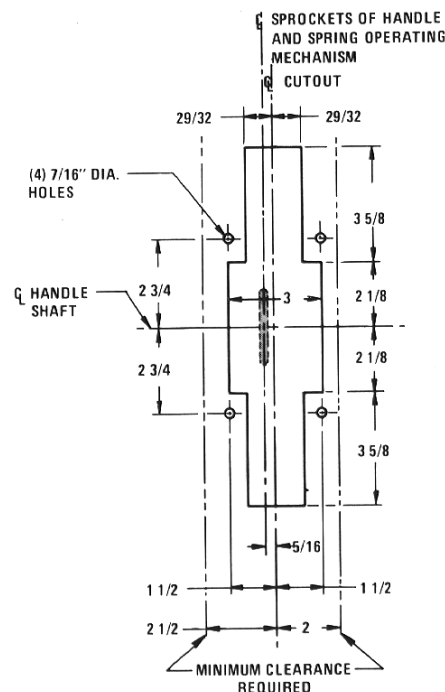

Fig. 10
- c. If not already provided, cut opening and drill or punch four 7/16" diameter mounting holes in left front of enclosure per details in Fig. 10. (This information is also found on chain drive operating mechanism Dwg. 316-557).